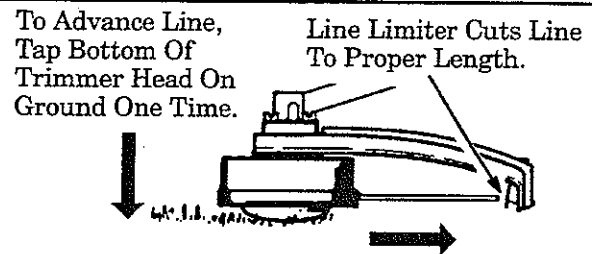

Figure 11
- **Always keep the shield in place when the tool is being operated.** Figure 11 .
3. Tap the bottom of the trimmer head lightly on the ground one time. See Figure 11 . Approximately 2 inches of line will be advanced with each tap.